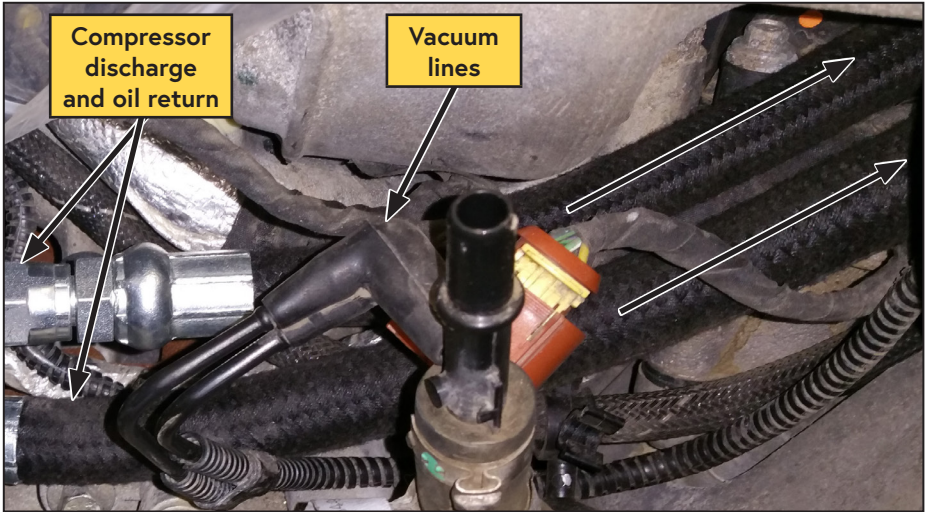

Figure 22 — Routing the hoses from the compressor
- Route the 1/2 in x 24 1/2 in discharge hose, the 3/8 in x 240 in oil return hose, and the 1/4 in x 240 in PTFE tube under the OEM intake manifold (Figure 22).
- Ensure the OEM vacuum lines and wiring are not pinched. The vacuum lines and/or wiring may need to be disconnected to route them correctly (Figure 22).